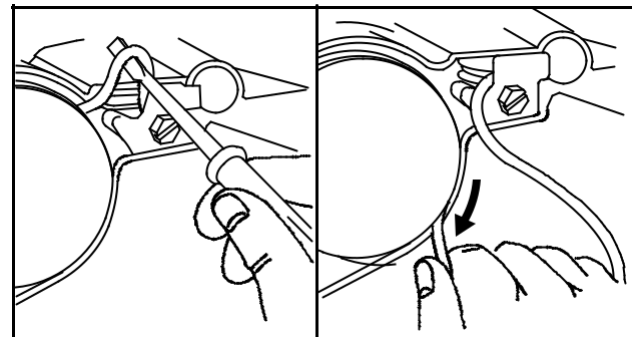

Fig. 64
15. Tension starter spring by pulling rope out approximately one foot, and winding rope and pulley 2 or 3 turns clockwise, Fig. 64.